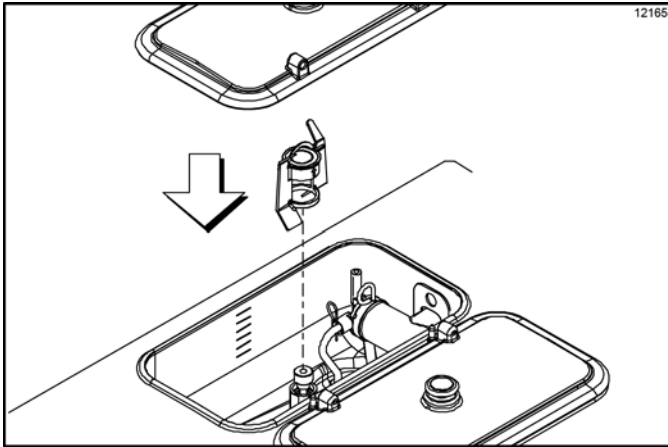

Figure 6-61
10. Install the agitator onto the agitator driveshaft housing. Replace the hopper cover. (See Figure 6-61.)